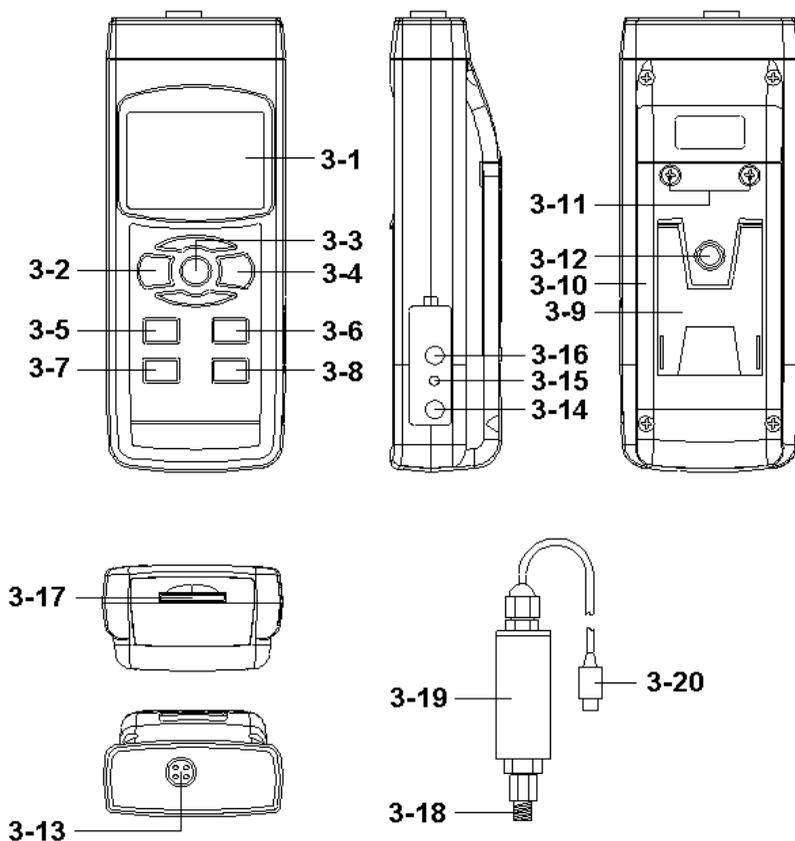

Fig. 1
After already select the convenient pressure sensor type, press Sensor type Button (3-6, Fig. 1) once, the Display will show the sensor type to confirm.
For example, if the pressure type already select 2 bar pressure sensor (Model : PS100-2BAR), then if press Sensor type Button (3-6, Fig. 1) once, the Display will show :
- 1) Plug in the " Plug of Pressure Sensor " (3-20, Fig. 1) to meter's " Probe Input Socket " (3-13, Fig. 1)
- 2) Power on the meter by pushing the " Power Button " (3-2, Fig. 1) once.
- 3) Press the " Sensor Type Button " (3-6, Fig 1) once to check if the meter's sensor type is same as the external pressure sensor.
- 4) Press the " Unit Button " (3-5, Fig. 1) once in sequence to select the measuring unit as : Bar, Psi, Kg/cm², mm Hg, inch Hg, meter H₂O, inch H₂O, Atmosphere, hPA, kPA.
If the Display is not show zero value, push the " Zero Button " (3-7, Fig. 1), > 10 seconds continuously, the Display value will change to zero value.
- 6) Connect the " Port Connector of Pressure Sensor " (3-18, Fig. 1) to the installation that intend to measure the pressure value.
During the measurement, press the " Hold Button " (3-3, Fig. 1) once will hold the measured value & the LCD will display a " HOLD " symbol.
1) The data record function records the maximum and minimum readings. Press the " REC Button " (3-4, Fig. 1) once to start the Data Record function and there will be a " REC " symbol on the display.
- a) Press the " REC Button " (3-4, Fig. 1) once, the " REC MAX " symbol along with the maximum value will appear on the display.
If intend to delete the maximum value, just press the " Hold Button " (3-3, Fig. 1) once, then the display will show the " REC " symbol only & execute the memory function continuously.
- b) Press the " REC Button " (3-4, Fig. 1) again, the " REC MIN " symbol along with the minimum value will appear on the display.
If intend to delete the minimum value, just press the " Hold Button " (3-3, Fig. 1) once, then the display will show the " REC " symbol only & execute the memory function continuously.
After power ON, the " LCD Backlight " will light automatically. During the measurement, press the " Backlight Button " (3-2, Fig. 1) once will turn OFF the " LCD Backlight ".
Prepare a " SD memory card " (1 GB to 16 GB, optional), insert the SD card into the " SD card socket " (3-17, Fig. 1). The front panel of the SD card should face against the down case.
Press the " REC Button (3-4, Fig. 1) once , the LCD will show the text " REC ", then press the " Logger Button " (3-8, Fig. 1), the bottom text " DATALOGGER " will flashing, at the same time the measuring data along the time information will be saved into the memory circuit.
During execute the Datalogger function , if press the " Logger Button " (3-8, Fig. 1) once will pause the Datalogger function (stop to save the measuring data into the memory circuit temporally). In the same time the text of " DATALOGGER " will be no flashing.
If press the " Logger Button " (3-8, Fig. 1) once again will execute the Datalogger again, the bottom text of " DATALOGGER " will flashing .
During pause the Datalogger, press the " REC Button " (3-4, Fig. 1) continuously at least two seconds, the " REC " indication will be disappeared and finish the Datalogger.
Press the " REC Button (3-4, Fig. 1) once , the LCD will show the text " REC ", then press the " Logger Button " (3-8, Fig. 1) once, the bottom text " DATALOGGER " will flashing once and Beeper will sound once, at the same time the measuring data along the time information will be saved into the memory circuit. The lower Display will show the Position (Location) no. and saved into the SD card too.
During execute the Manual Datalogger, press the " ▲ Button " (3-5, Fig. 1) the lower no. (position no.) will flashing. It can use the " ▲ Button " (3-5, Fig. 1) or " ▼ Button " (3-6, Fig. 1) to set the measuring Location no. (1 to 99, for example room 1 to room 99) to identify the measurement location , the lower Display will show $P x$ ($x = 1$ to 99).